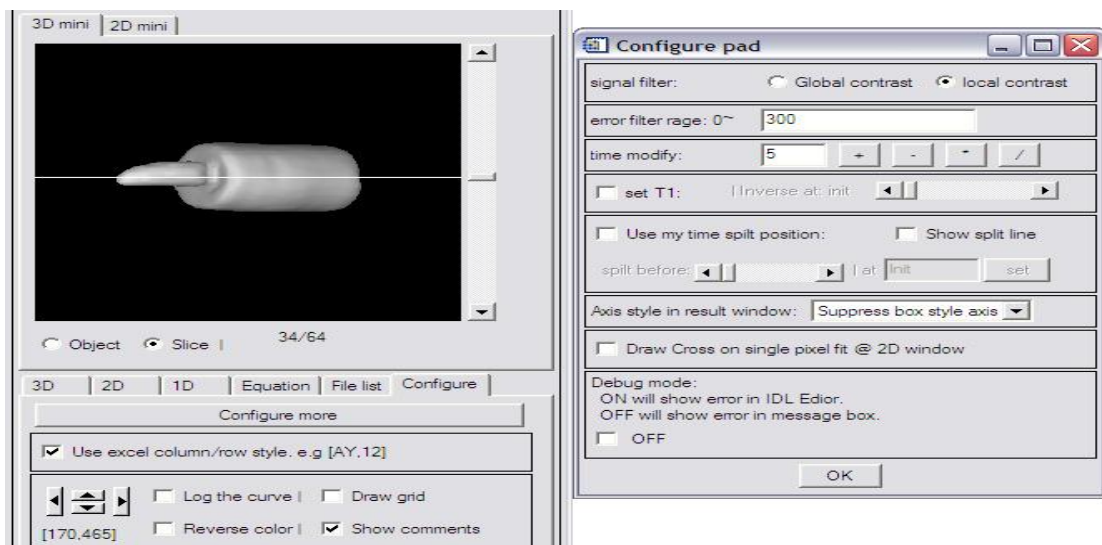

Figure 12:
- **Equation select:** see figure 12.
- 2) Use user’s own equation: choose “my eq” option and click [12.5] to set the equation. Details see description of Figure 12.